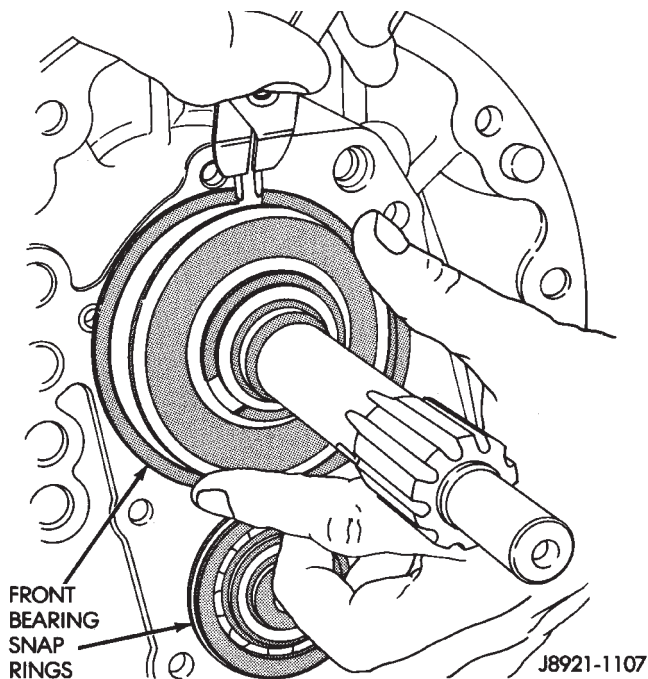

Fig. 35 Install Front Bearing Snap-rings
- (4) Install new front bearing snap rings (Fig. 35).